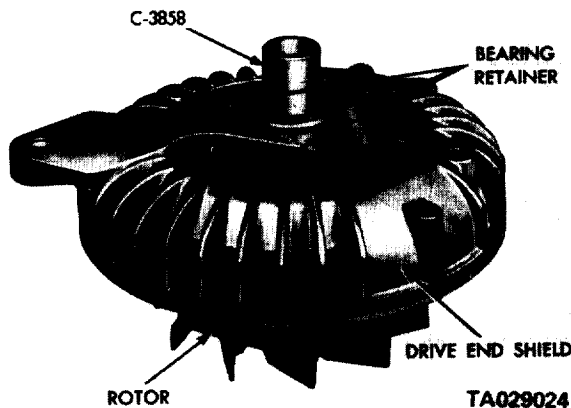

Figure 14-15. Installing Drive End Shield Bearing.
d. Position the bearing and drive end shield on the rotor shaft and, while supporting the base of the rotor shaft, press the bearing end shield into position on the rotor shaft with an arbor press and tool C-3858 (figure 14-15).